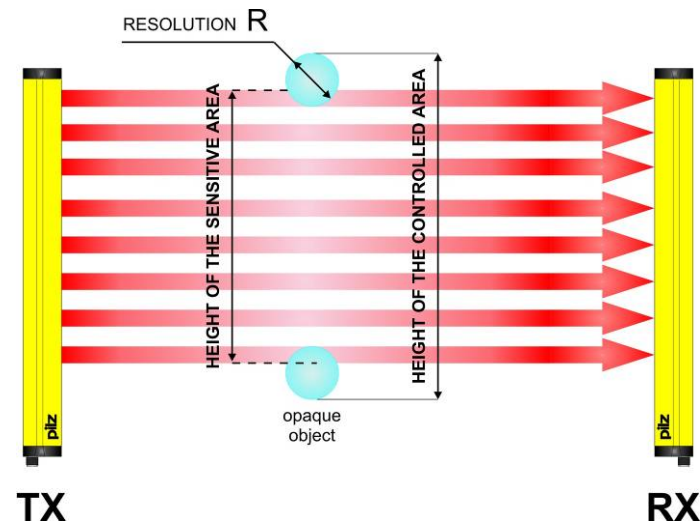

Fig. 3
- Height of protected field: Here it is important to distinguish between the “Height of the sensing area” and the “Height of the protected area” (Fig. 3).